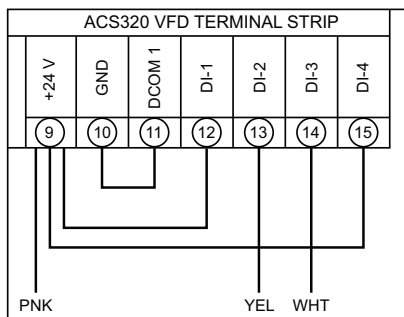

Fig. 29 — ACS320 VFD Wiring
- For ACS320 VFDs the voltage is sourced from the VFD at its terminal 9 (+24 V). SAV speed inputs are received at terminals 13 (DI-2) for low speed (40 Hz) motor operation and 14 (DI-3) for high speed (60 Hz) motor operation. See Table 12 and Fig. 29 (on page 20).